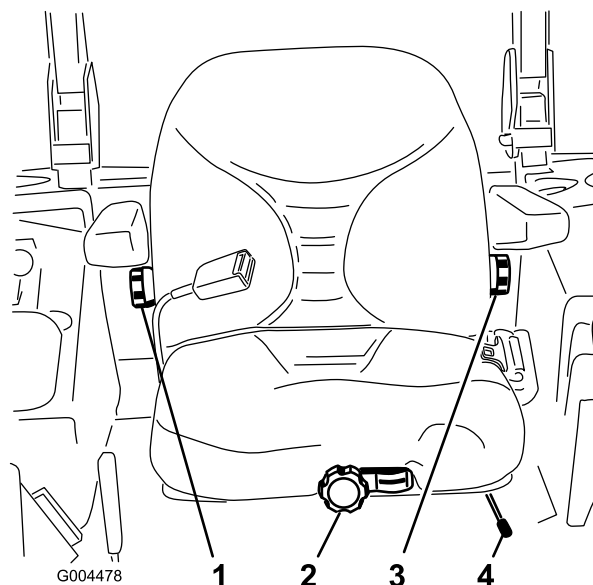

Figure 22
- To adjust, move the lever sideways to unlock the seat (Figure 22).
Without sitting on the seat, turn the knob in front either direction to provide the best comfort (Figure 22).
To adjust it, turn the knob, under the right-side arm rest, in either direction to provide the best comfort (Figure 22).
To adjust it, turn the knob, under the left-side arm rest, in either direction to provide the best comfort (Figure 22).